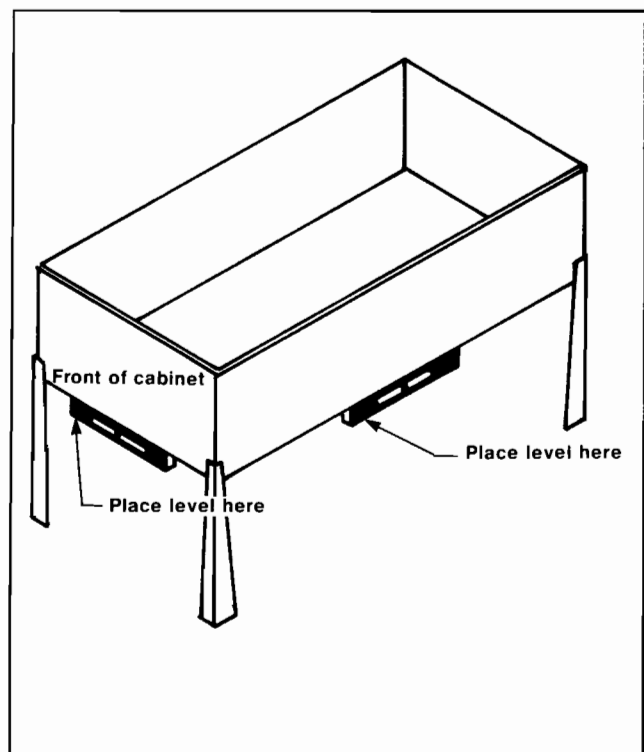

Figure 4 Leveling of Cabinet at Game Site
Step 1) Adjust the leveling screws built in at the floor ends of the legs. Use a carpenter-type bubble level to insure that the cabinet will be truly level, both side to side and front to back. *Do not place the level on the playfield surface.* Instead put it in the two places shown in Figure 4.